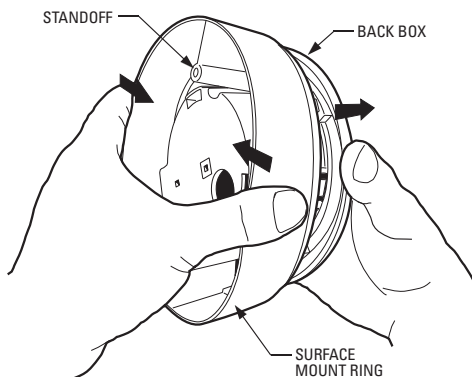

Figure 5. How to Remove Surface Mount Ring from Back Box
3. Remove the surface mount ring from the back box. Refer to Figure 5 and do the following:
2. Remove the surface mount ring from the back box. Refer to Figure 5 and do the following: